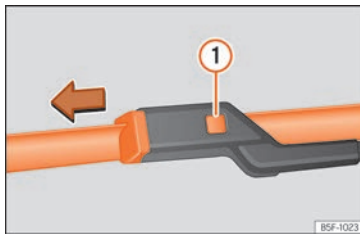

Fig. 51 Changing the windscreen wiper blades
- Press and hold release button » Fig. 51 ❶ and pull gently on the wiper blade in the direction of the arrow.